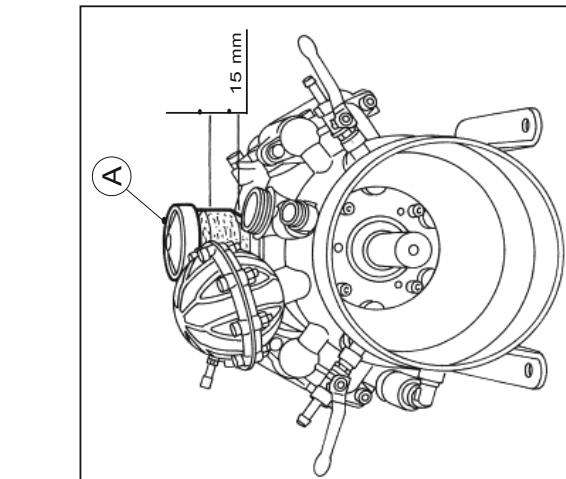

Fig. 1
With every treatment make sure that the oil level in the volumetric pump compensator (Fig. 1) is visible. Never completely fill the tank (A); 15 mm of oil is sufficient.